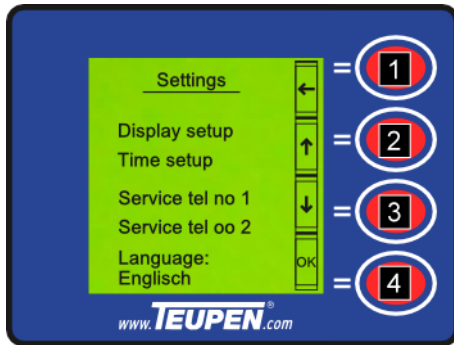

Fig. 68: Settings
1. → Select a submenu with the [function keys] (Fig. 68/2 and 3).
2. → Use the [function key] (Fig. 68/4) to jump to the selected submenu.
3. → Use the [function key] (Fig. 68/1) to jump back to the 'Main menu'.